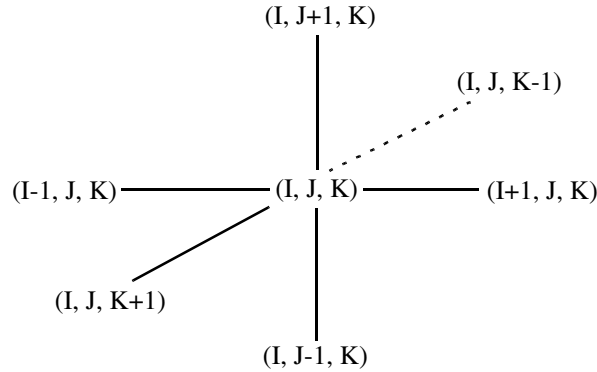

Figure 3-8. IJK-ordered data point neighbors.
3.3.1.3. IJK-Ordered Data Points. The data points for 3-D volume field plots are usually organized in a three-parameter mesh. Each point is addressable by a set of three parameters (I, J, and K) and has six neighboring data points (except at the boundaries). These neighbors are located above, below, left, right, in front of, and behind the data point as shown in Figure 3-8.